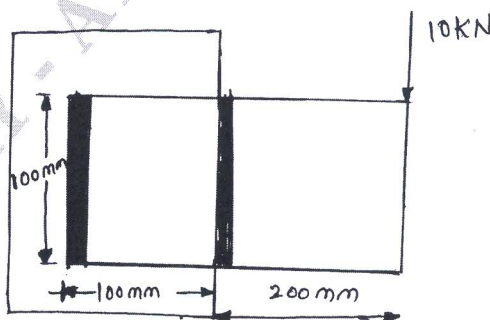

Fig Q8(a)
- 8 a. A welded connection is as shown in Fig Q8(a) if the allowable stress is 100MPa. Determine the size of weld. (08 Marks)